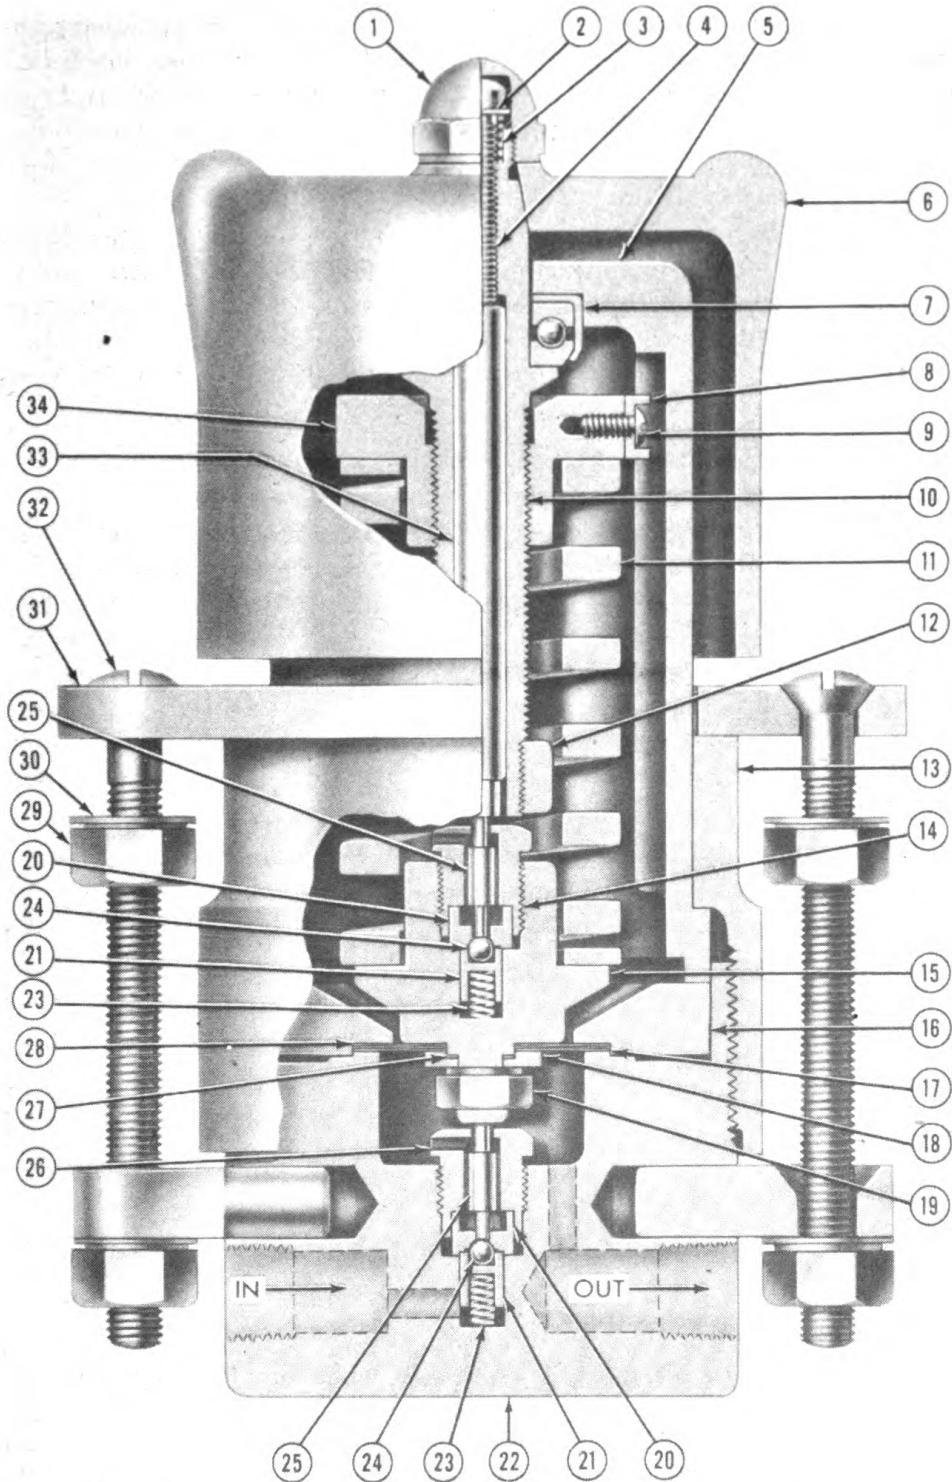

Figure 49—Secondary fuel pressure air pressure regulator (sectional view). (Gun actuating air pressure regulator is similar.)
Legend for Figure 49
(1) The secondary fuel pressure and gun actuating air pressure regulators are Grove Model 15-H (3,500 pounds per square inch maximum inlet pressure), spring-loaded type (fig. 49). They are located on the turret regulator panel board (figs. 19 and 44).
(1) To increase regulated pressure, turn handwheel (6) (fig. 49) clockwise, watching pressure gage on panel above regulator, until desired pressure is reached. To decrease regulated pressure, turn handwheel counterclockwise until gage reads desired pressure. This second operation will be accompanied by the sound of escaping air from the built-in regulator relief valve. The sound of escaping air does not indicate a leak in the system unless it persists. Because of the volume of air in the secondary fuel system, a few minutes is required before the system reaches the reduced regulator outlet pressure.
(2) A second adjustment comprises a screw (4) under the cap (1) nut on handwheel which controls the operation of the built-in relief valve. It is normally not necessary to touch this second adjustment. In the event it is necessary to readjust, proceed as follows: